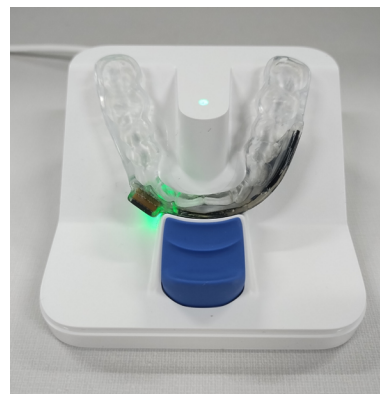

Figure. 1
- c. Charge the ProSomnus RPMO₂ Oximeter Device by placing it on the ProSomnus RPMO₂ Charging Station, ensuring both device and station LEDs indicate charging is in progress as shown in Figure. 1.